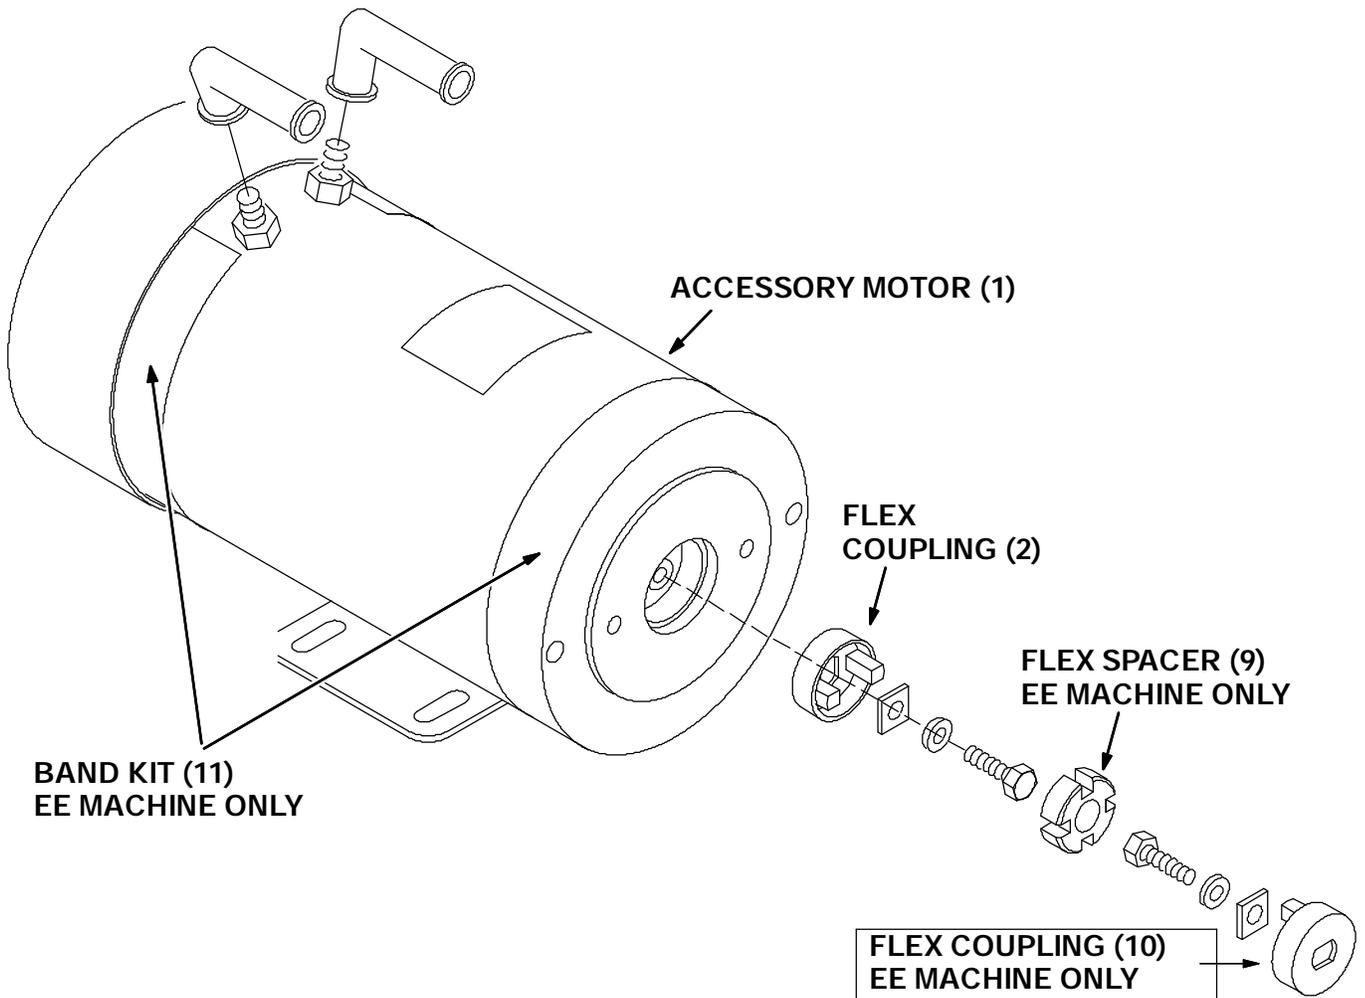

FIG. 2 - EE MACHINE COUPLING ASSEMBLY
3. **If your machine is an EE version-** - install the new pump (4) on the new pump adaptor (7). Place a small amount of adhesive (6) on the threads of the two pump mount screws. Install the screws and tighten to 18 - 24 Nm (15 - 20 ft lb). (Refer to FIG. 2)
5. **If your machine is an EE version-** - install the new flex coupling (10) and flex spacer (9) on the shaft of the new pump (4). Position the coupling so it extends slightly past the end of the pump shaft. Hand tighten the set screws firmly. (Refer to FIG. 2)
6. **If your machine is an EE version-** - install the two bands in the new band kit (11) on the new electric motor (1). (Refer to FIG. 2)